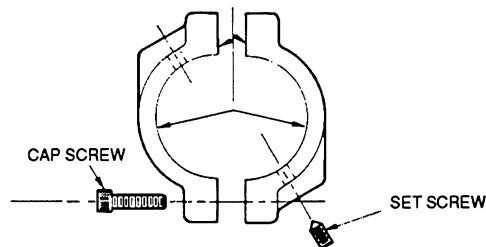

FIGURE 2
7. Separate EYSR sealing fitting halves by removing the cap screws; coat threads and flange joints with STL Lubricant. See Figure 2.